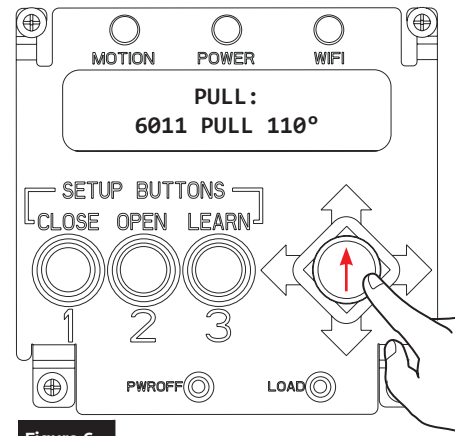

Figure 6
1. After the arm type has been selected, push the joystick UP to select the operator model. (Figure 6)